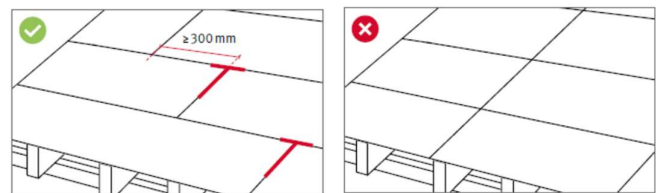

Figure 11
8. If the rest piece of row A is too short to be used, than choose a full EGGER OSB tongue and groove panel and adjust its length so that tongue-and-groove joints of each newly installed panels are staggered by at least 300 mm from row to row (T-joints), as indicated below (figure11).